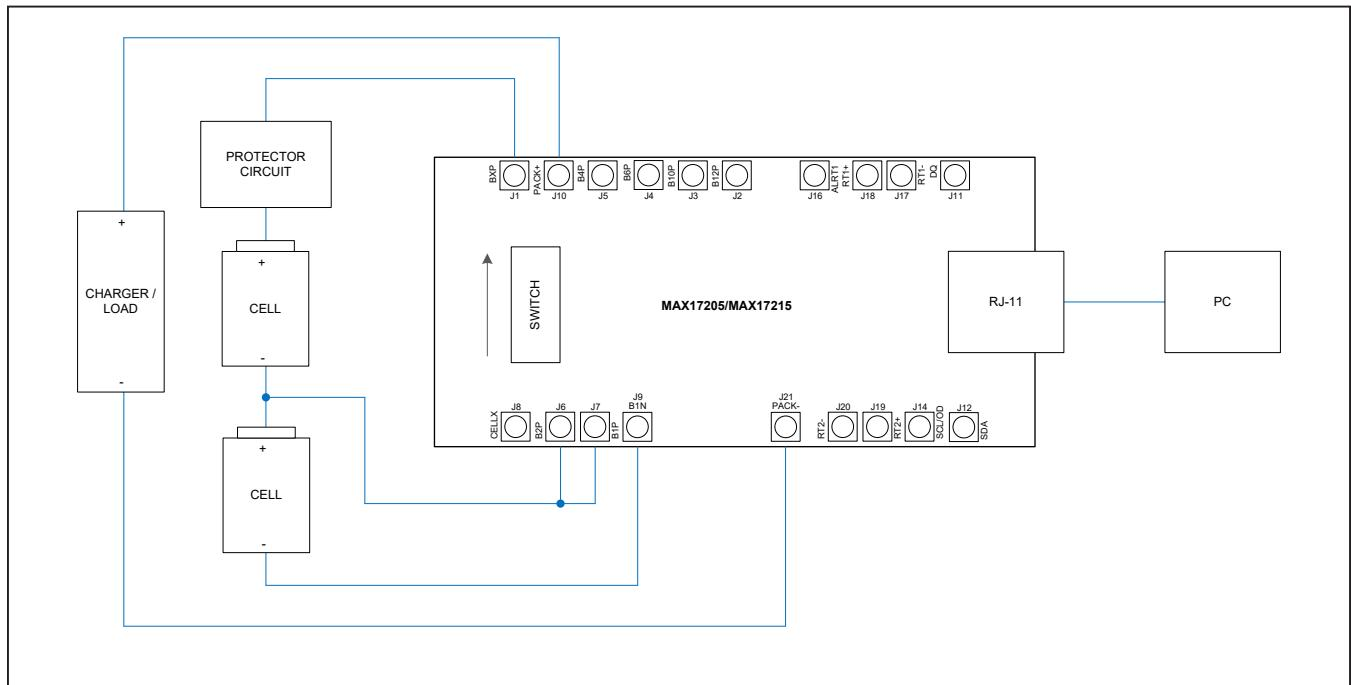

Figure 1. MAX17205/MAX17215 Board Connections for 2S Cell Stacks
- 6) Make connections to the EV kit board based on the cell pack configuration as shown in the following figures. The load or charger circuit can be connected at this time as well. Figure 1 shows the connections for a 2S cell pack with a high-side protector. The lower cell connects between the B1N and B1P/B2P pads and the upper cell connects between the B1P/B2P pads and the BxP pad. The charger/load connects between the PACK- and PACK+ pads. Note B1P and B2P should always be connected together in this configuration.